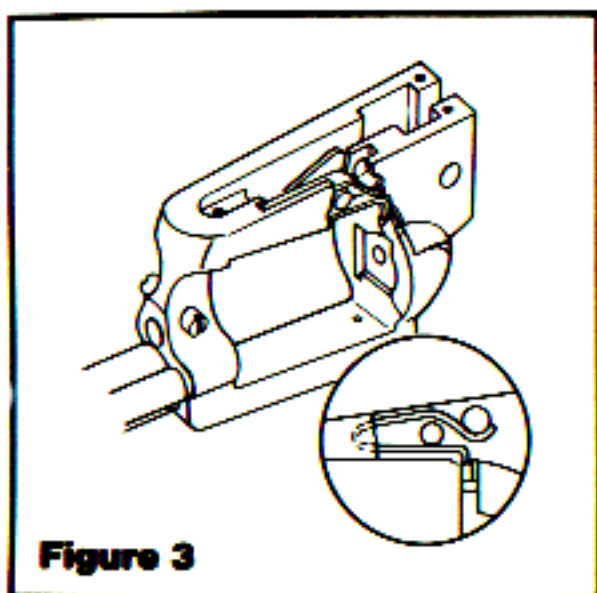

Figure 3
3. Replace cylinder latch and gate detent spring as shown in Figure 3. Note that the lug on the cylinder latch fits between the arms of the gate detent spring and that the end of one of the arms of the spring is formed at a 90 degree angle. The projection thus formed, is designed to fit through the square hole in the bottom of the frame and to ride on the cam surface of the gate pivot. Note also that this projection holds the loading gate back and in place.